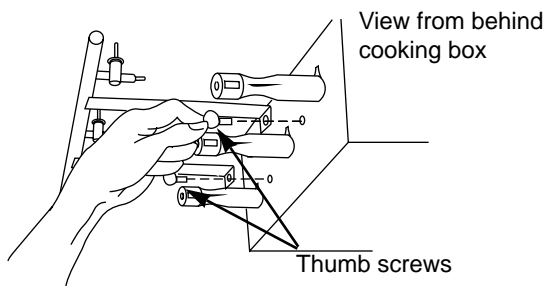

Figure 8
- e) Remove the manifold bracket and unscrew the two thumb screws that hold the manifold to the cooking box. Pull the manifold and valve assembly out of the burners and carefully set it down. Figure 8.